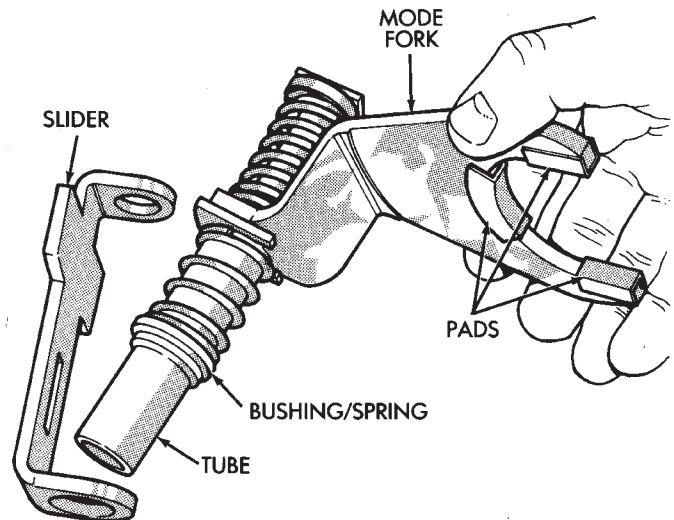

Fig. 62 Mode Fork Assembly Inspection
(39) Inspect mode fork assembly (Fig. 62). Replace pads and bushing if necessary. Replace fork tube if bushings inside tube are worn or damaged. Also check springs and slider bracket (Fig. 62). Replace worn, damaged components.